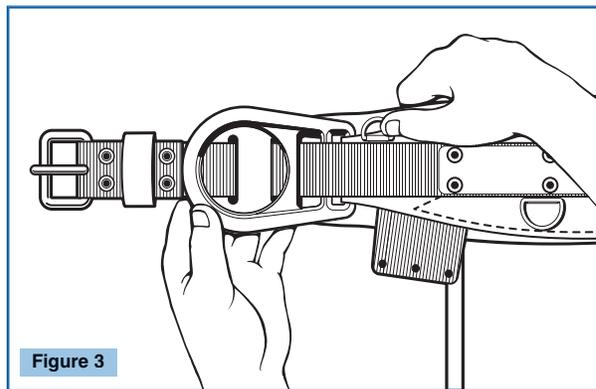

Figure 3
- 2. D-rings.** Check all D-rings for distortion. Check D-ring attachment points for unusual wear or damaged fibers. Badly pitted D-rings could indicate chemical corrosion, and the equipment should be replaced immediately. (See Fig. 3)